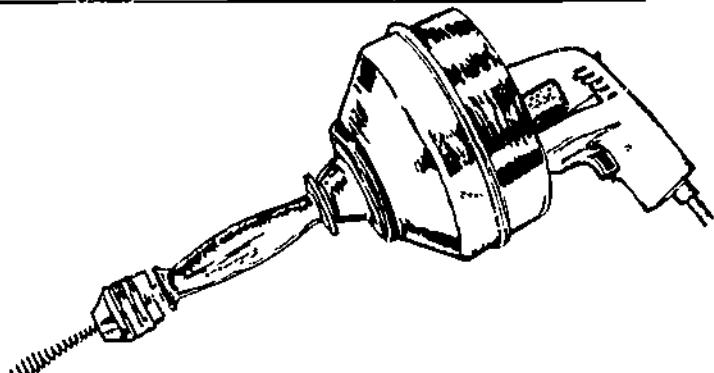

Figure 23-21. Portable Electric Drain Cleaner
71. The portable electric drain cleaner shown in Figure 23-21 is one of the types used to clean small-diameter drains such as are installed for lavatories, laundry tubs, bathtubs, and shower stalls. It can be inserted through such openings as a PG plug on a lavatory and operates as easily as an electric drill. The manufacturer claims it will clean small-diameter drains without having to remove the trap.